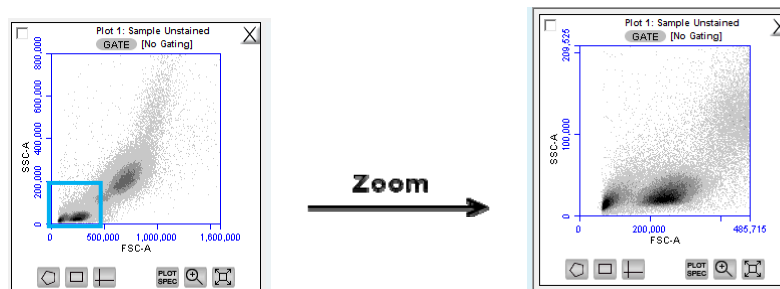

Figure 3-6 Use of Zoom Tool for a “close-up” view of the lymphocyte population in a human peripheral blood sample.
2. **Use the Zoom Tool to expand the view of the lymphocyte population.** Click on the **Zoom Tool** button (the symbol will turn blue) and use it to encompass the area on which to zoom (Figure 3-6).